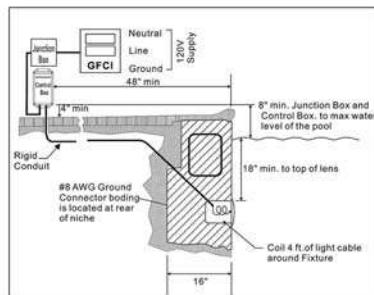

Figure 1
2. The junction box (or, for 12 volt models, the low voltage transformer) must be located at least eight(8) inches above water level, at least four (4) inches above ground level, and at least four (4) feet from the edge of the pool. See Figure 1.
3. The light fixture and all metal items within five(5) feet of the pool must be properly electrically bonded to a reliable point of grounding.
4. The wet niche must be properly installed so that the top edge of the underwater light's lens is at least 18 inches below the surface of the water in the pool. See Figure 1.
5. The wet niche must be properly electrically bonded and grounded via the No. 8 AWG ground connector located at the rear of the niche. See Figure 1.
1. Feed cord through conduit to junction box, leaving at least four (4) feet of cord at the light fixture to coil into the base of the light niche, see Figure 1. The four (4) feet of cord allows the light to be serviced after the pool is filled with water.
2. Cut the cord at the junction box, leaving at least six (6) inches of cord to make connections.
The junction box (or, for 12 volt models, the low voltage transformer) must be located at least eight(8) inches above water level, at least four (4) inches above ground level, and at least four (4) feet from the edge of the pool. See Figure 1.
4. The light fixture and all metal items within five(5) feet of the pool must be properly electrically bonded to a reliable point of grounding.
5. The wet niche must be properly installed so that the top edge of the underwater light's lens is at least 18 inches below the surface of the water in the pool. See Figure 1. The wet niche must be properly electrically bonded and grounded via the No. 8 AWG ground connector located at the rear of the niche. See Figure 1.
4. Feed cord through conduit to junction box, leaving at least four (4) feet of cord at the light fixture to coil into the base of the light niche, see Figure 1. The four (4) feet of cord allows the light to be serviced after the pool is filled with water.
5. Cut the cord at the junction box, leaving at least six (6) inches of cord to make connections.